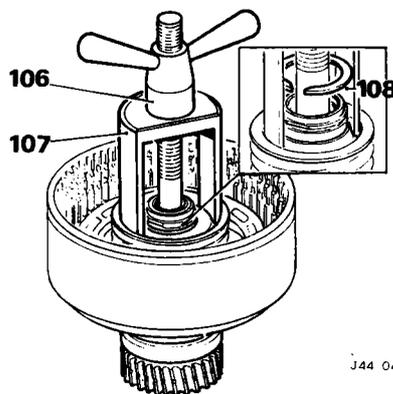

Fig. 43
- 106. Place the rear clutch assembly over the central spindle of the clutch spring compressor 18G 1016 reverse the sun gear down (Fig. 43).
- 107. Fit spring compressor over spindle (Fig. 43).
- 108. Compress the spring and remove the snapping (Fig. 43).